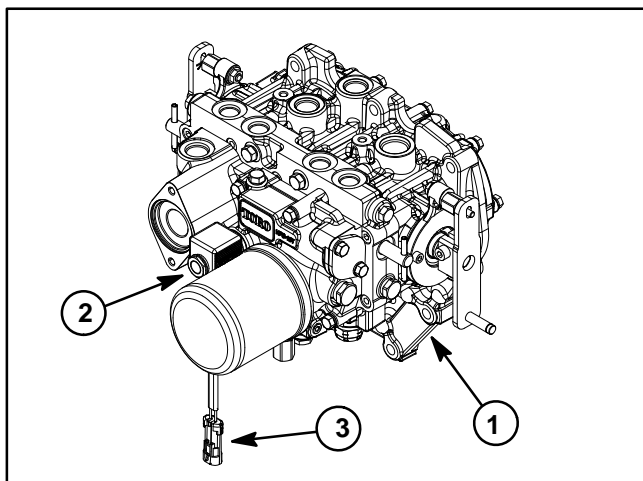

Figure 3
5. To prevent unintentional engagement of the PTO clutch, disconnect the wire harness electrical connector from the PTO solenoid valve coil connector (Fig. 3).
7. Connect the wire harness electrical connector to the PTO solenoid valve coil connector (Fig. 3).